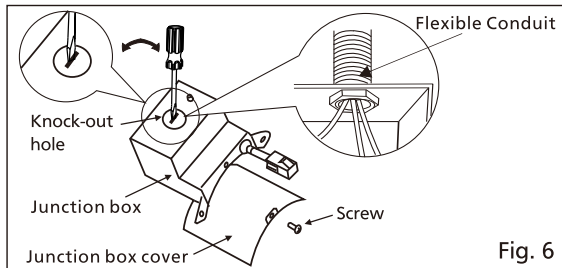

Fig. 6
6. Open knock-out hole and unscrew the screw holding the junction box cover. After removing junction box cover, secure conduit or stress relief on the knock-out hole.(Fig.6)